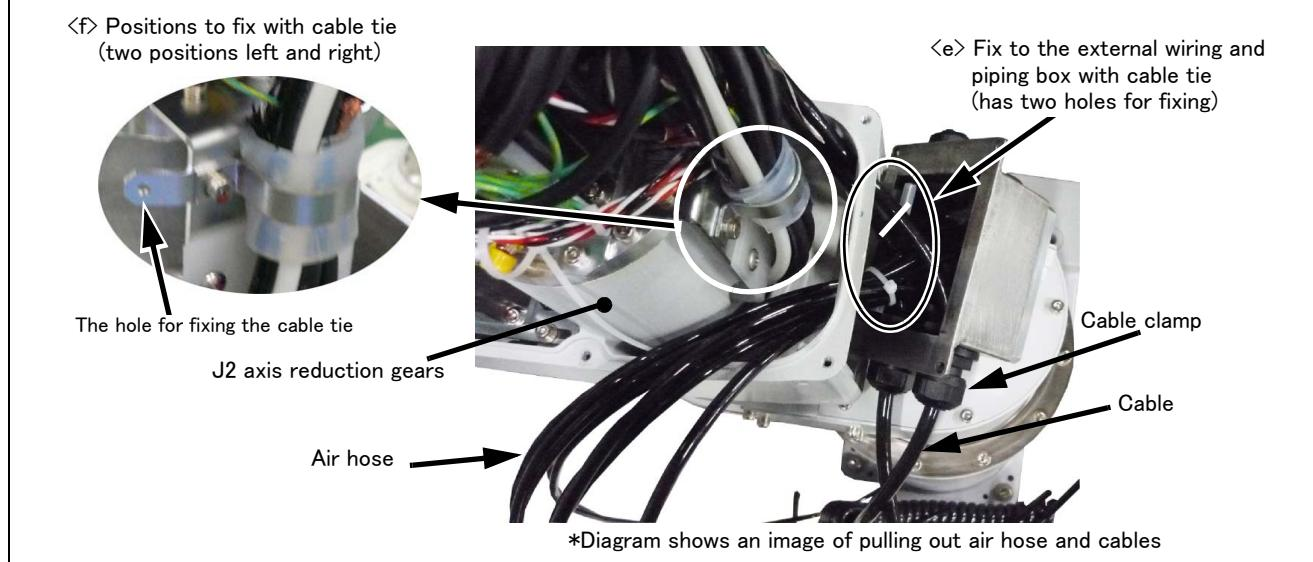

Fig.3-9 : External Wiring and Piping Box
**Fig. 3-9** shows the installation procedure for the external wiring and piping box. The procedure is the same in RH-3FH/6FH/12FH/20FH. Remove the No. 2 arm cover B and install this option using the same screw holes. The installation procedure is shown below.
- 4) Fix the air hoses and cables to the hole inside of this box by using the attached cable tie. (section <e> of Fig. 3-9)
Fix the hoses and cables to the hole shown in section <f> of Fig. 3-9 using cable tie. There are 2 holes, located left and right.